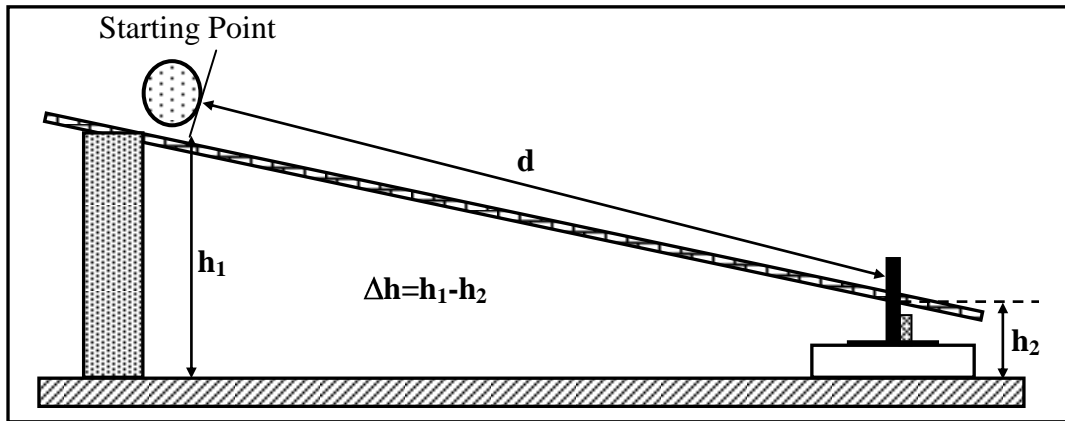

Figure 11.4: Measuring  $d$  and  $\Delta h$ .
3. Mark a starting point for the ball 30 cm up the ramp from your mid-point. Measure  $h_1$ , the vertical distance from the surface of the lab table to this point. Also measure  $h_2$ , the distance from the lab table to your mid-point (see Fig.11.4). Record these values in Table 11.1. The difference between these two heights determines the gravitational potential energy gained by the ball as it rolls from the starting point to the photogate. Record the difference in heights as  $\Delta h$ . Also record the distance along the ramp (30 cm) as  $d$ .
distance from the lab table to your mid-point (see Fig.11.4). Record these values in Table 11.1. The difference between these two heights determines the gravitational potential energy gained by the ball as it rolls from the starting point to the photogate. Record the difference in heights as  $\Delta h$ . Also record the distance along the ramp (30 cm) as  $d$ .